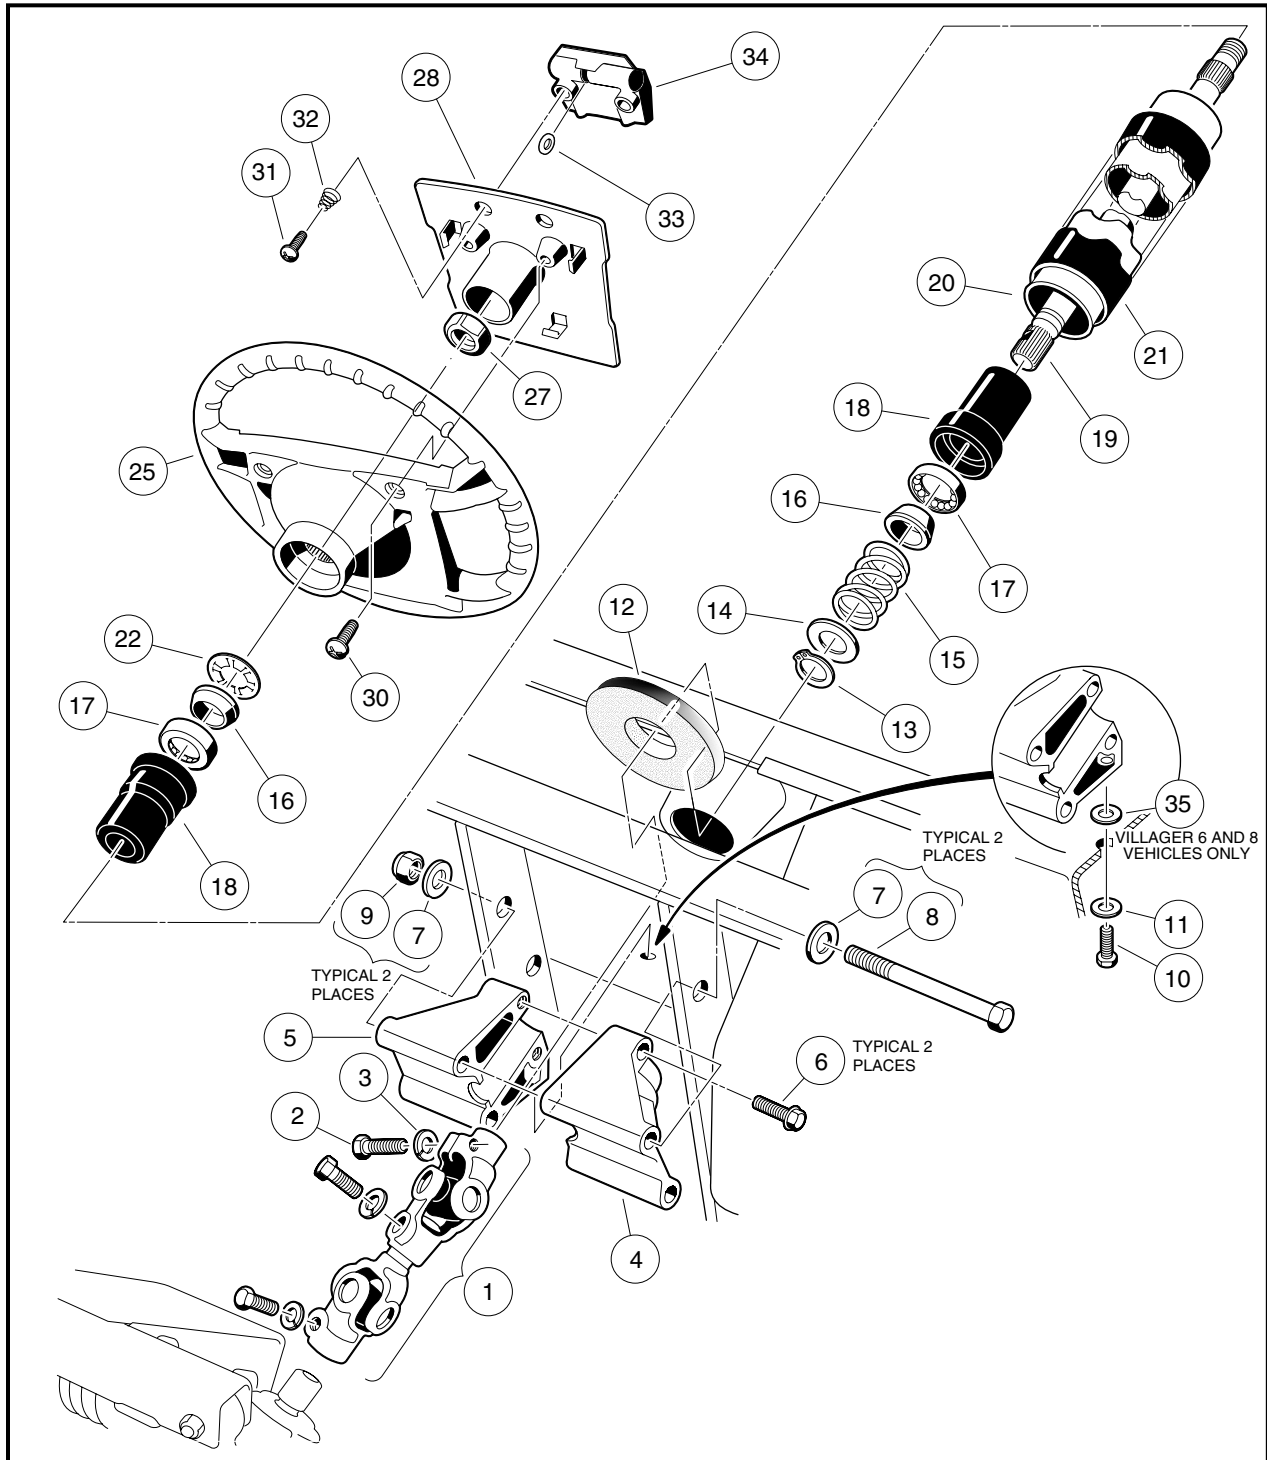

Figure 7-4 Steering Column
2. Remove the two mounting screws (30) and plate (28) (**Figure 7-4, Page 7-5**).
3. Match mark the steering wheel (25) and steering column shaft (19) so when the steering wheel is removed it can be placed back in exactly the same position on steering column shaft (**Figure 7-4, Page 7-5**).
4. Loosen the steering wheel nut (27) and back it off approximately 1/4 inch (6 mm). Do not remove the nut (**Figure 7-4, Page 7-5**).
- 5.6. Remove the steering wheel nut (27) and the steering wheel (25) from the steering column (20) (**Figure 7-4, Page 7-5**).
1. Install the steering wheel (25) on the splines of the steering shaft (19). Be sure to align the match marks placed on the wheel and steering column in step 3 above (**Figure 7-4, Page 7-5**).
2. Install the steering wheel nut (27) and tighten to 13 ft-lb (17.6 N·m).
3. Install the steering wheel plate (28) and plate mounting screws (30) (**Figure 7-4, Page 7-5**). Tighten screws to 16 in-lb (1.8 N·m).
5. Remove the upper bolt (2) and lock washer (3) from the universal joint (**Figure 7-4, Page 7-5**).
6. Remove the nuts (9), bolts (8 and 10), and washers (7, 11, and 35) from the steering column mount (4 and 5) (**Figure 7-4, Page 7-5**).
1. Remove bolts (6) and mounts (4 and 5) from steering column. Remove boot (12) (**Figure 7-4, Page 7-5**).
2. While supporting steering column (20) on a workbench, remove snap ring (13) from shaft.
3. Remove the washer (14), spring (15), and wedge (16).
4. Turn the steering column over and slide the shaft out of the tube to expose the retaining ring (22). Use pliers to twist the retaining ring (22) until it breaks off, then remove the wedge (16).
5. Remove the shaft (19) from the bottom of the tube (20).
6. Use steering shaft (19) to push bearing seat (18) out from the opposite end of the steering tube (20).
7. Insert a flat blade screwdriver between the bottom of the outer race of the bearing (17) and the bottom lip of the bearing seat (18) and remove the bearing (17).
4. Insert the shaft (19) from the bottom of the steering tube (20) (**Figure 7-4, Page 7-5**).
1. Install boot (12). Reinstall mount (4 and 5) onto the end of the steering column. Tighten bolts (6) to 20 ft-lb (27 N·m) (**Figure 7-4, Page 7-5**).
3. Position the steering column assembly in the vehicle while inserting the steering column shaft into the upper universal joint (1). The flat portion of the steering shaft spline (19) must be aligned with the bolt hole in the universal joint (1) before sliding the spline into the universal joint. While holding the steering column in place, attach it to the frame using bolts (8), washers (7), and nuts (9) (**Figure 7-4, Page 7-5**). Thread the nuts onto the bolts but do not tighten them.
4. Install washer (35) (Villager 6 and 8 vehicles only), washer (11), and screw (10). Tighten to 20 ft-lb (27 N·m) (**Figure 7-4, Page 7-5**).
5. Install the bolt (2) and lock washer (3) on the upper universal joint and finger-tighten.
6. Tighten the two nuts (9) and bolts (8) to 18 ft-lb (24.4 N·m) (**Figure 7-4, Page 7-5**).
7. Tighten the bolt (2) on the upper universal joint to 15 ft-lb (20 N·m) (**Figure 7-4, Page 7-5**).
8. Check the other two bolts of the universal joint (1) to ensure that they are properly tightened to 15 ft-lb (20 N·m) (**Figure 7-4, Page 7-5**).
5. Remove the bolt (2) and flat washer (3) on the upper universal joint, then remove the rack assembly and universal joint from the vehicle (**Figure 7-4, Page 7-5**).